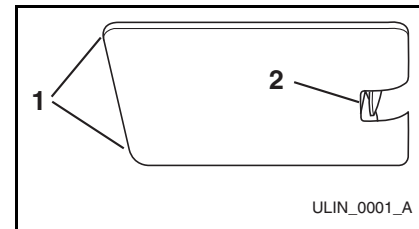

Figure 25
1. Grasp the edges of the light housing lens (**Figure 25, 1**) opposite the exposed tab and gently push the lens toward the tab (**Figure 25, 2**).
2. Pull the edge of the lens down (**Figure 25, 1**) and swing it out of the light housing.